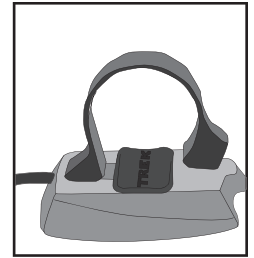

Figure 4- Clamp and rubber pad in computer base
3. Insert the handlebar clamp into the back of the computer base (Figure 4) and slide it towards the front of the base.